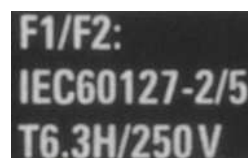

Figure 17-1: Fuse label
- To find out fuse characteristics, check the label to the right of the power switch on the rear panel. See Figure 17-1.